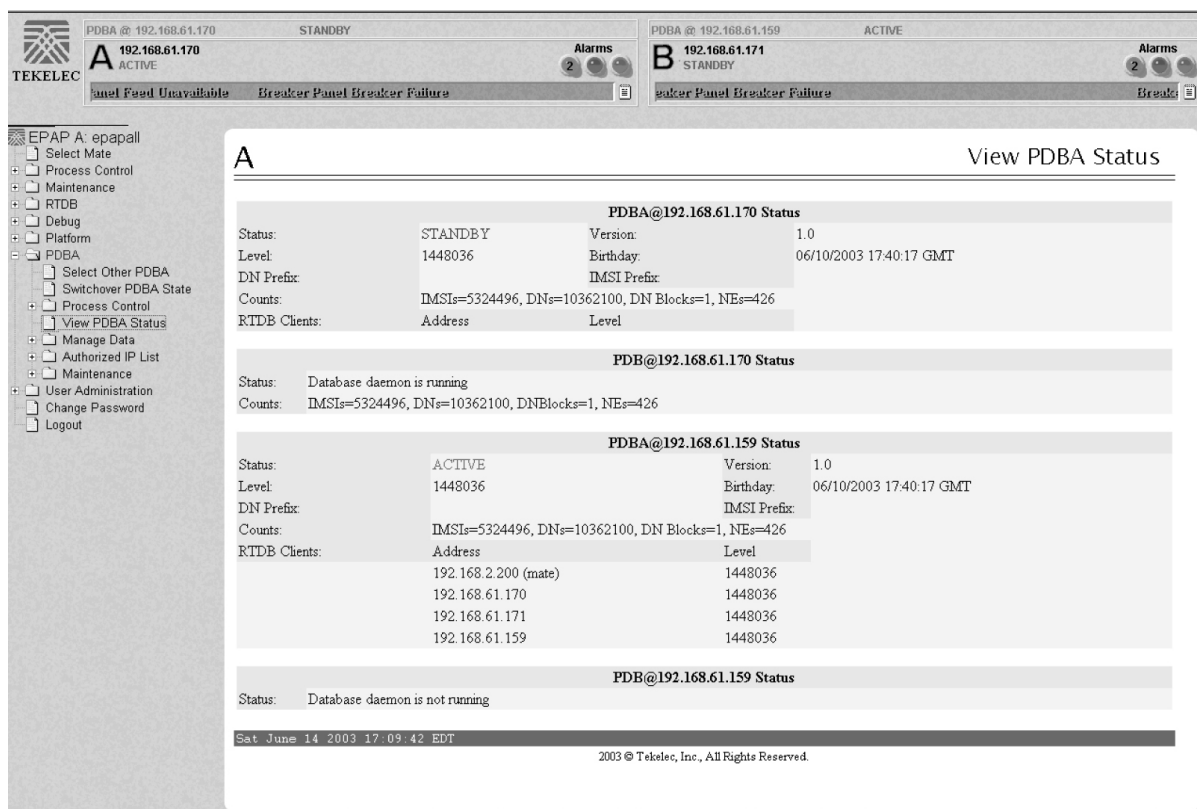

Figure 43: View PDBA Status
1. Periodically, verify that the level of the standby PDBA is catching up by selecting **PDBA>View PDBA Status** and comparing the Level of the Standby PDBA (on EPAP A in the example shown in Figure 43: View PDBA Status) to the Level of the Active PDBA (on EPAP B in the example).